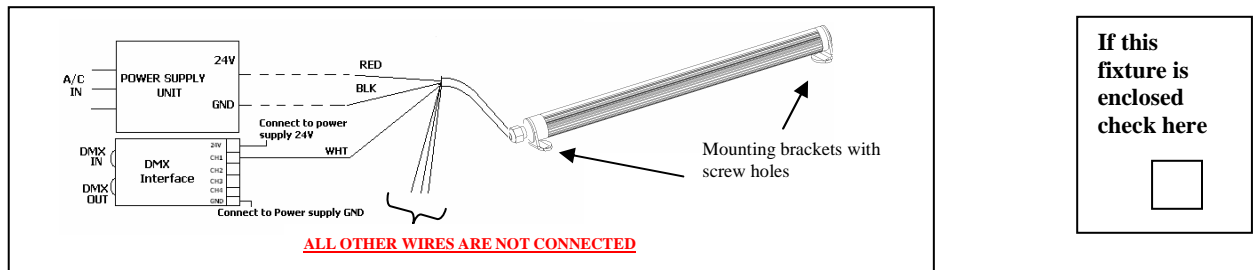

Figure 2: Single Color Dimmable LM Fixture
- For connecting a single color dimmable fixture, refer to Figure 2 and Notes 2 ONLY